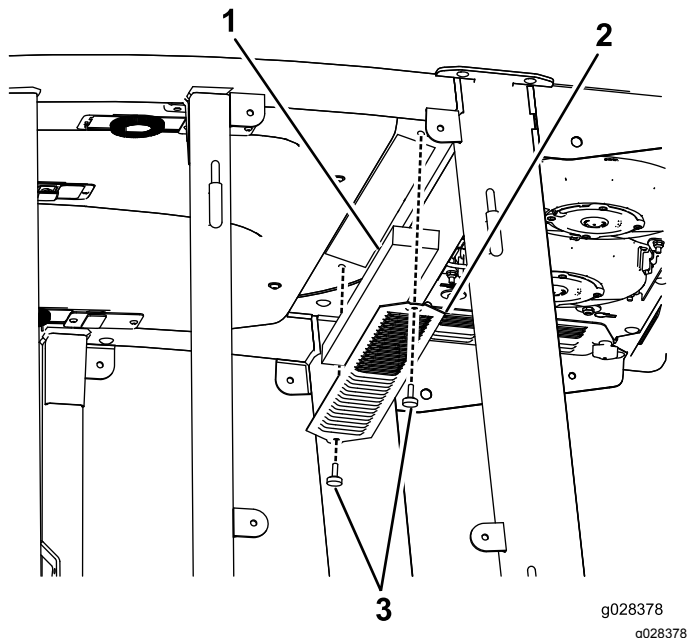
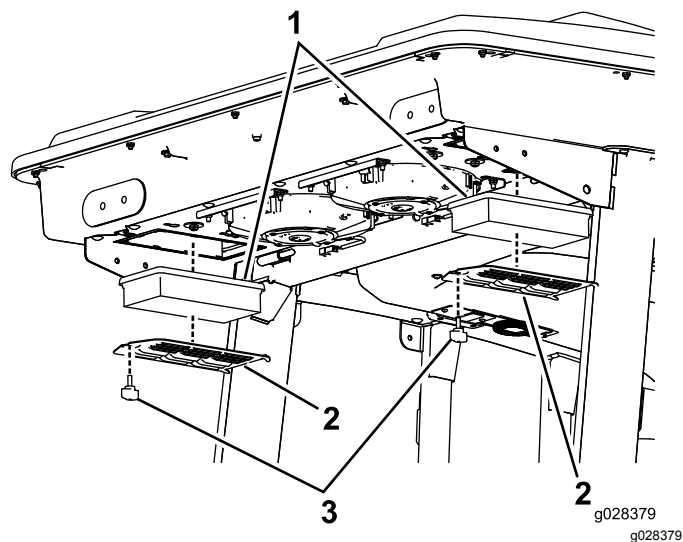
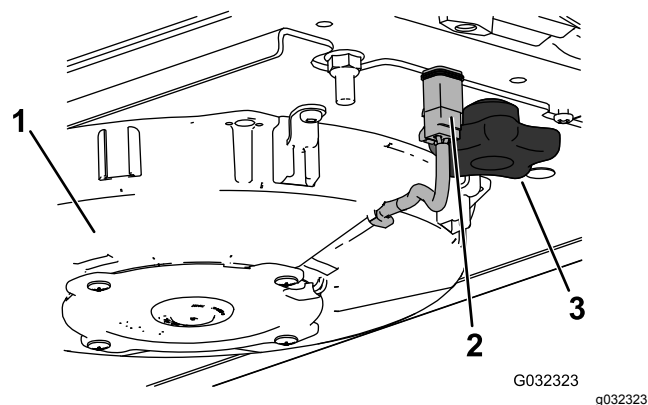
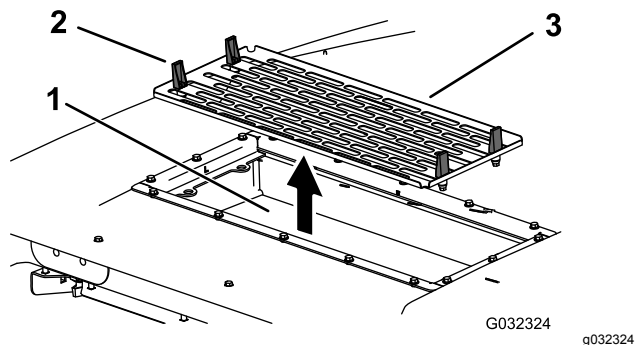

Figure 113
Figure 114
Figure 115
Figure 116
1. Remove the screws and grates from both the in-cab and rear cab air filters (Figure 113 and Figure 114).
5. Remove the air filters (see Figure 114).
7. Install the air filters, screen, and fan assembly (Figure 114, Figure 115, and Figure 116).
8. Connect the wire for each fan (Figure 115).